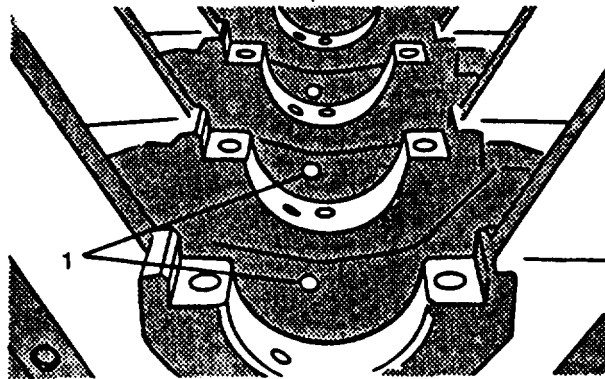

FIGURE 3-136. Inspecting piston Cooling Nozzles
- (1) Inspect each piston cooling nozzle (1, FIGURE 3-136) to make sure it is not plugged or damaged. Cooling nozzles deliver approximately 0.4 gallon per min (1.50 liters/min) oil flow.